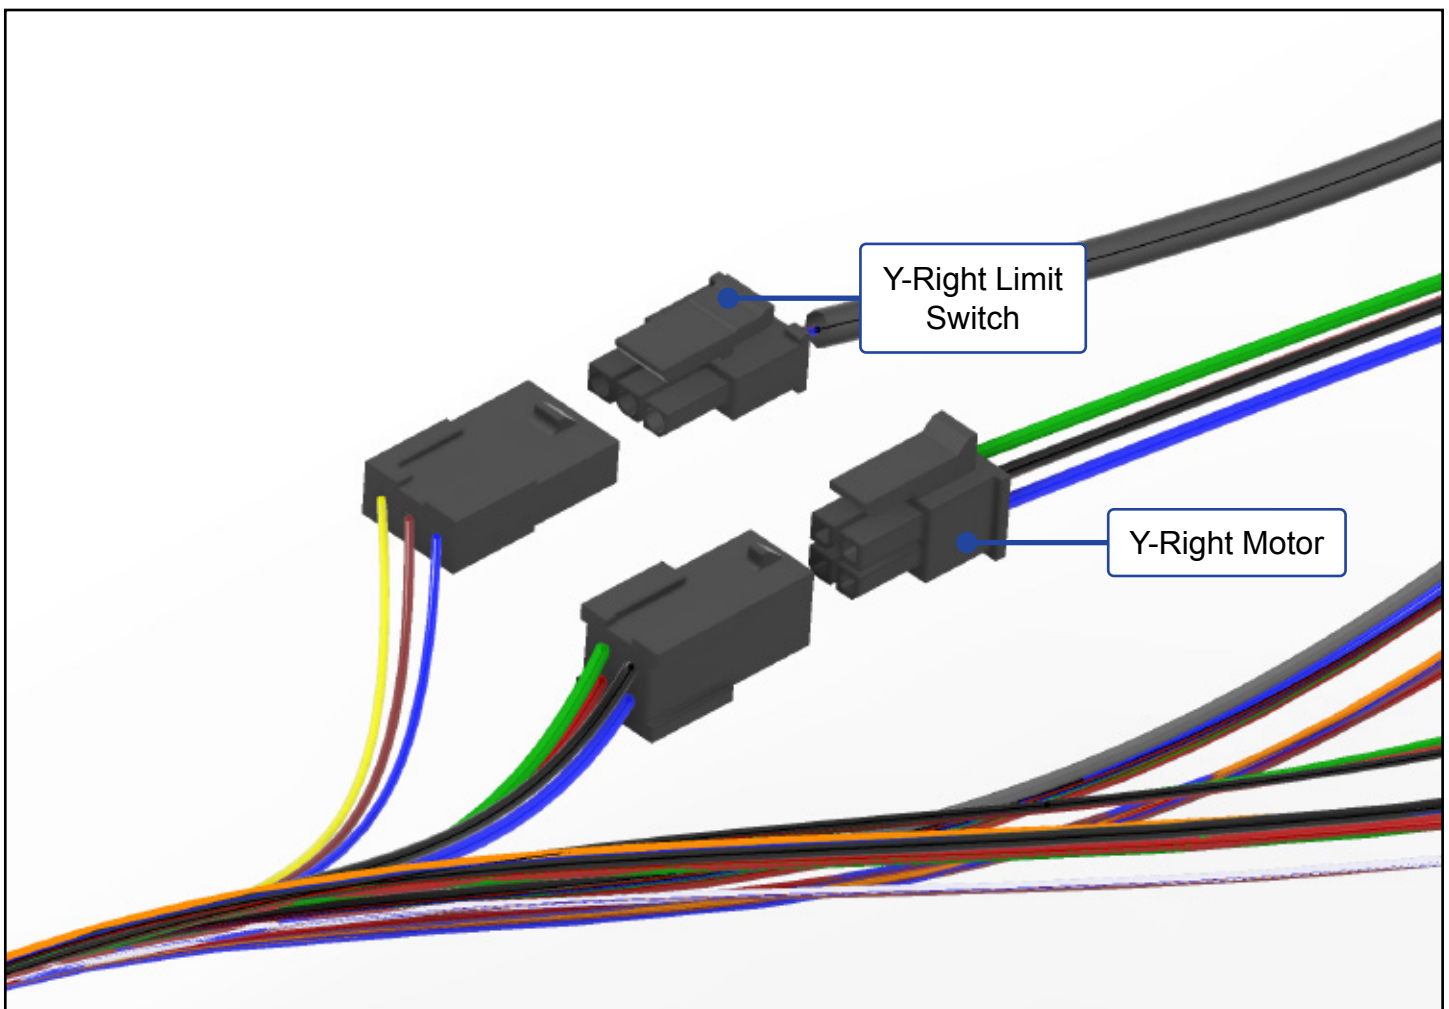

Figure 4-14
3. Connect the Y-Right stepper motor. See **Fig. 4-14**.
4. Connect the Y-Right limit switch. See **Fig. 4-14**.